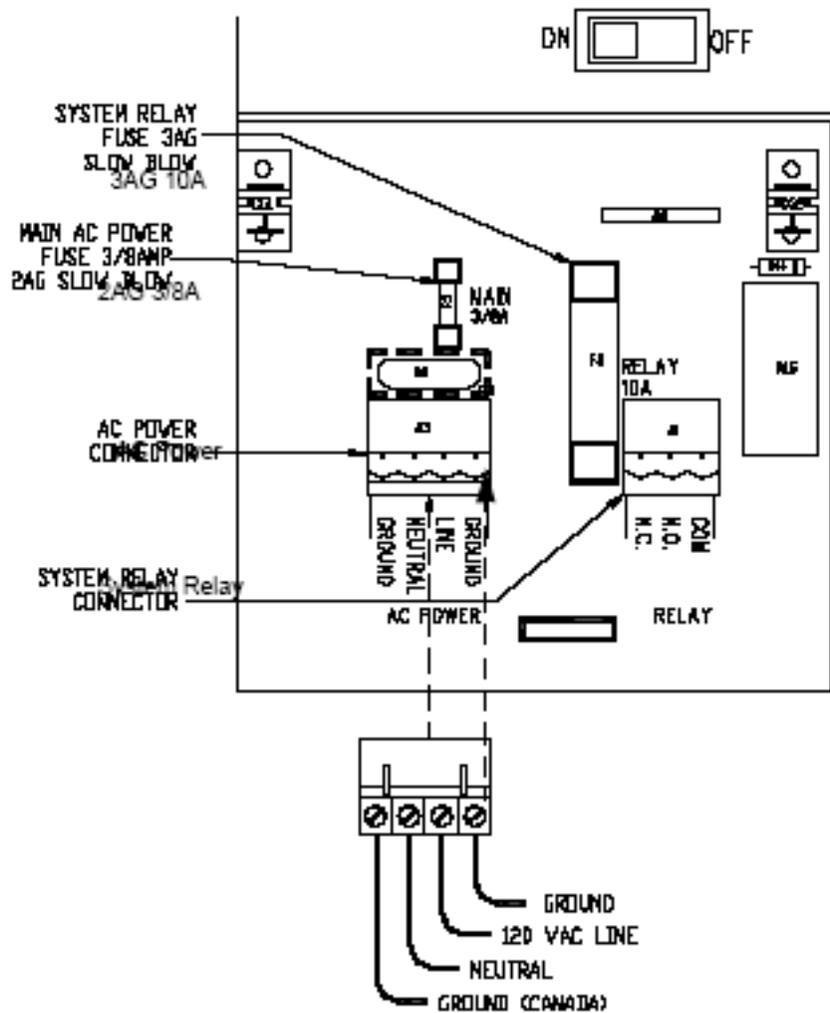

Figure 5: Power Connections
1. See the bottom of *Figure 5*. Run 120 VAC power to the EECO SYSTEM from a dedicated 15 AMP circuit (located in a main power distribution panel).
4. Make wire connections as shown in *Figure 5* on *page 8*. Connect ground, line, and neutral for United States installations, include the second ground wire for Canada.
5. Strip 1/4" insulation from the end of each individual wire. Insert the wires into the connector as shown in *Figure 5* on *page 8*. Tighten each screw securely. Insert the 4-position AC power connector into the mating receptacle.
- See *Figure 5* on *page 8* for location of standard relay and connector.